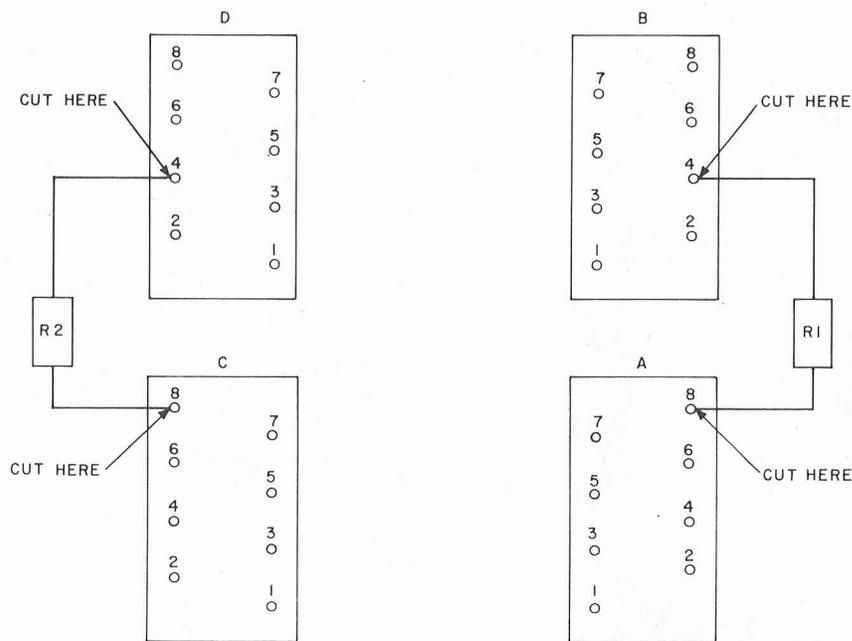

Fig. 3—1 and 2-Type Attendant Telephone Consoles—Partial Wiring Diagram
1.08 When the KS-20778 head telephone set is used at 1- and 2-type attendant telephone consoles, it is necessary to remove the 68 ohm dummy loading resistors across the console head telephone set jacks. The dummy load resistors were originally provided to ensure a constant transmit level when either one or two head telephone sets were used. The resistors designated R1 and R2 on SD-67001-01 may be removed simply by cutting the resistor leads off as close to the jack as practicable. (See Fig. 3). Removal of the resistors will also improve the transmit levels of the other types of head telephone sets.